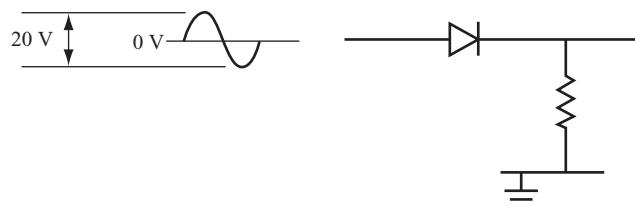
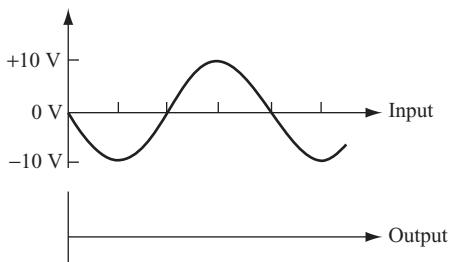
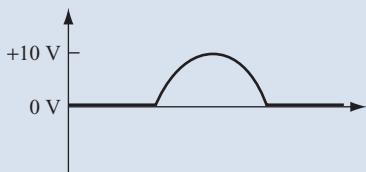

FIGURE 11.3
FIGURE 11.6
FIGURE 11.7
- 3** Figure 11.3 shows a circuit with 20 V_{pp} AC input signal centered at 0 volts DC.
- 4 When the input is negative, the diode in the circuit shown in Figure 11.3 is reverse-biased. Therefore, the output voltage remains at 0 volts.
Figure 11.6 shows the input waveform for the circuit shown in Figure 11.3. Draw the output waveform on the blank graph provided in Figure 11.6.
See Figure 11.7.
- 5 Figure 11.7 shows the output waveform of the circuit shown in Figure 11.3, for one complete cycle of the input waveform.
Now, draw the output waveform for three complete cycles of the input waveform shown in Figure 11.6. Use a separate sheet of paper for your drawing.
On a separate sheet of paper, draw the output waveform for three input cycles, assuming that the diode is connected in the opposite direction from the diode shown in Figure 11.3.